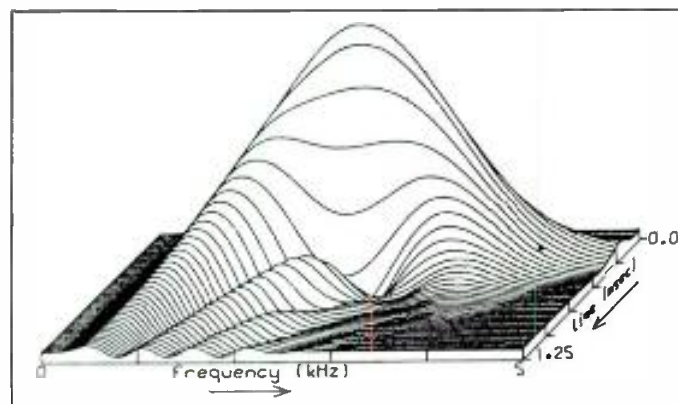

Figure 11. The cumulative spectra display of the response of a bandpass filter. (Philips)
The People at Philips Research Labs in the Netherlands have taken a somewhat different approach. Called "Wigner Distribution," it uses instrumentation techniques similar to the digital impulse testing method in use at KEF. As Janse and Kaizer (18) report in their paper, "...The Wigner distribution of a signal can be interpreted as a distribution of the signal energy in time and frequency. It is a basic time-frequency distribution...." FIGURES 11 and 12 show the response of a bandpass filter in cumulative spectra form and the Wigner Distribution display contour plot. The top view of the *mountain range* in the Wigner plot shows the effects of phase-shift or time-delay in this filter (about 0.5 msec. at 1 kHz).